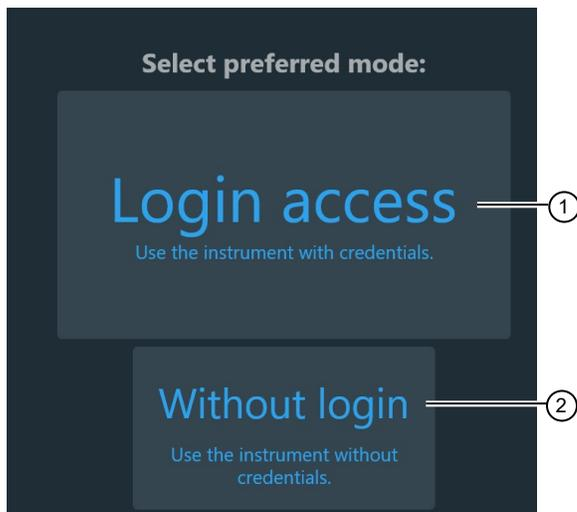

Figure 6 Preferred mode screen
1. After the instrument is powered on, a **Preferred mode** screen appears. See Figure 6.